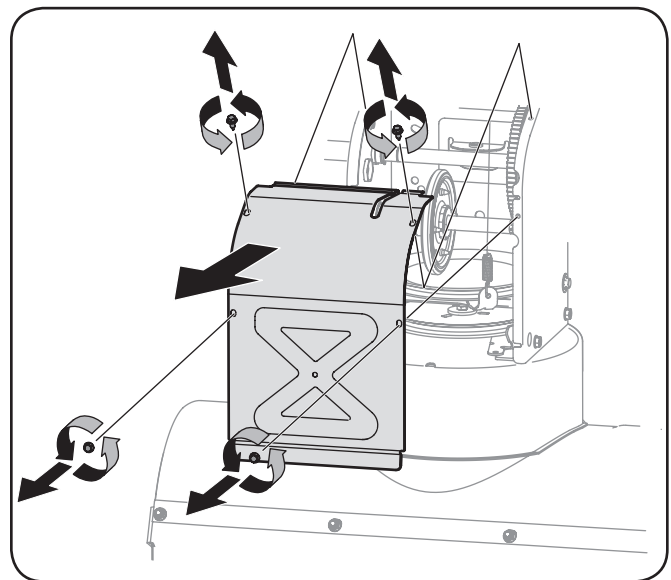

Figure 6-5
3. Remove the frame cover from the underside of the snow thrower by removing the self-tapping screws which secure it. Refer to Figure 6-5.